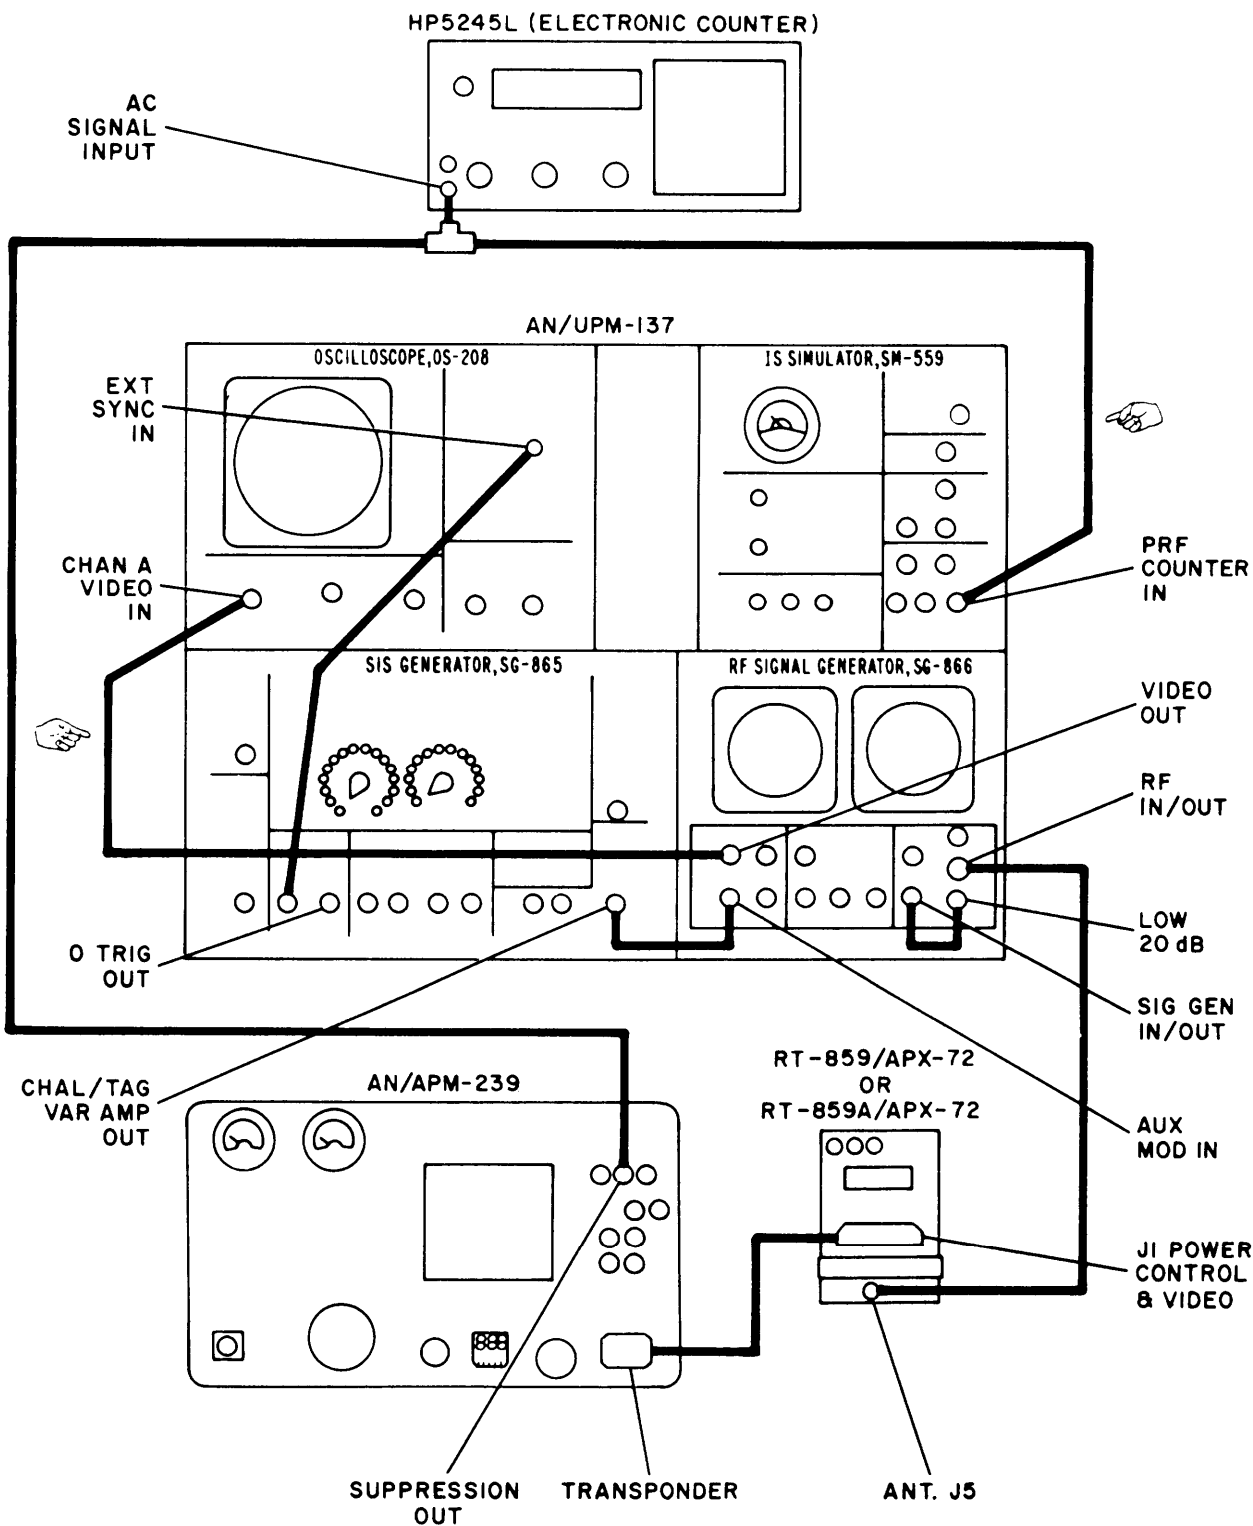

Figure 4-4. Receiver Sensitivity/AOC Tests, Test Setup
a. preliminary Procedures. Assemble and connect the receiver-transmitter and test equipment as shown in figure 4-4. Warm-up time for the AN/UPM-137 is 15 minutes. All other test equipment should be allowed to warm up for a minimum of ten minutes before starting test procedures.
1. Test Set, Transponder, AN/APM-239 with C-6280 (P)/APX-72 inserted.